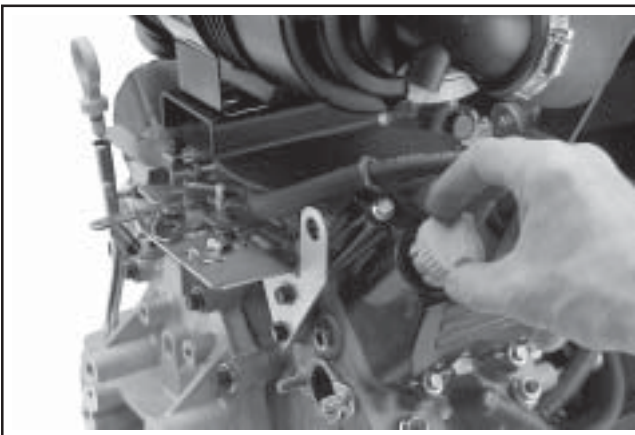

Figure 11-122. Installing Dipstick and Oil Fill Cap.
5. Reinstall the oil fill cap and tighten securely. See Figure 11-122.